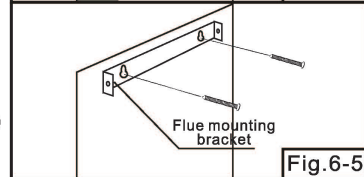

Fig.6-5
12. Insert 2 wall plugs and fix mounting bracket to the wall using 2 screws. (Fig.6-5)